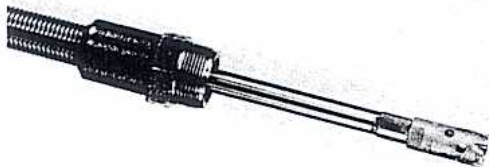

FIGURE 31
4. Coat shell cutter thoroughly with MUELLER cutting grease. FIGURE 31.